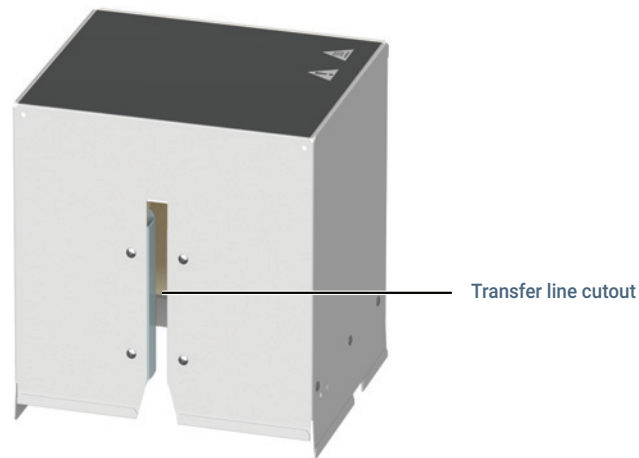

Figure 5. The valve thermal enclosure's transfer line cutout
- 1 Locate the valve thermal enclosure's transfer line cutout, and align it with the transfer line (**Figure 5**).